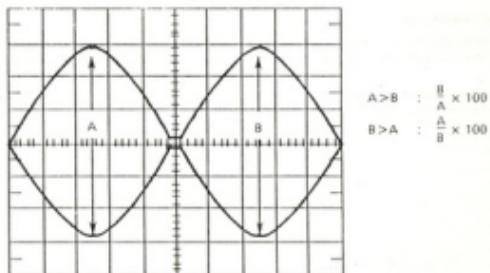

Fig. 5.2 Radial Alignment Waveforms (CATS EYE)
(4) Check the output waveforms for sides 0 and 1. They should appear as in Fig. 5.2.
(5) The two waveforms should appear in the amplitude ratio in the R/A $+/- 42\%$ or more.
(6) If the specified ratio is not satisfied, loosen the two mounting screws for the stepper motor.
(7) Move the stepper motor along the base by hand until the two waveforms assume approximately the same amplitude, and retighten the mounting screws. (See Fig. 5.2).
(8) Step the head outward (track 0) and inward (track 40 or 79), and confirm that the adjustment has been completed.
(9) After the initial adjustment, be sure to confirm track 00 sensor adjustment 5.8 and carriage limiter 5.9.